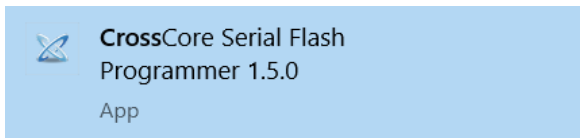

Figure 4. CrossCore Serial Flash Windows App
- Open the **CrossCore Serial Flash Programmer 1.5.0** app (see Figure 4). If the programmer is not installed, download the installer from the CrossCore Utilities webpage.